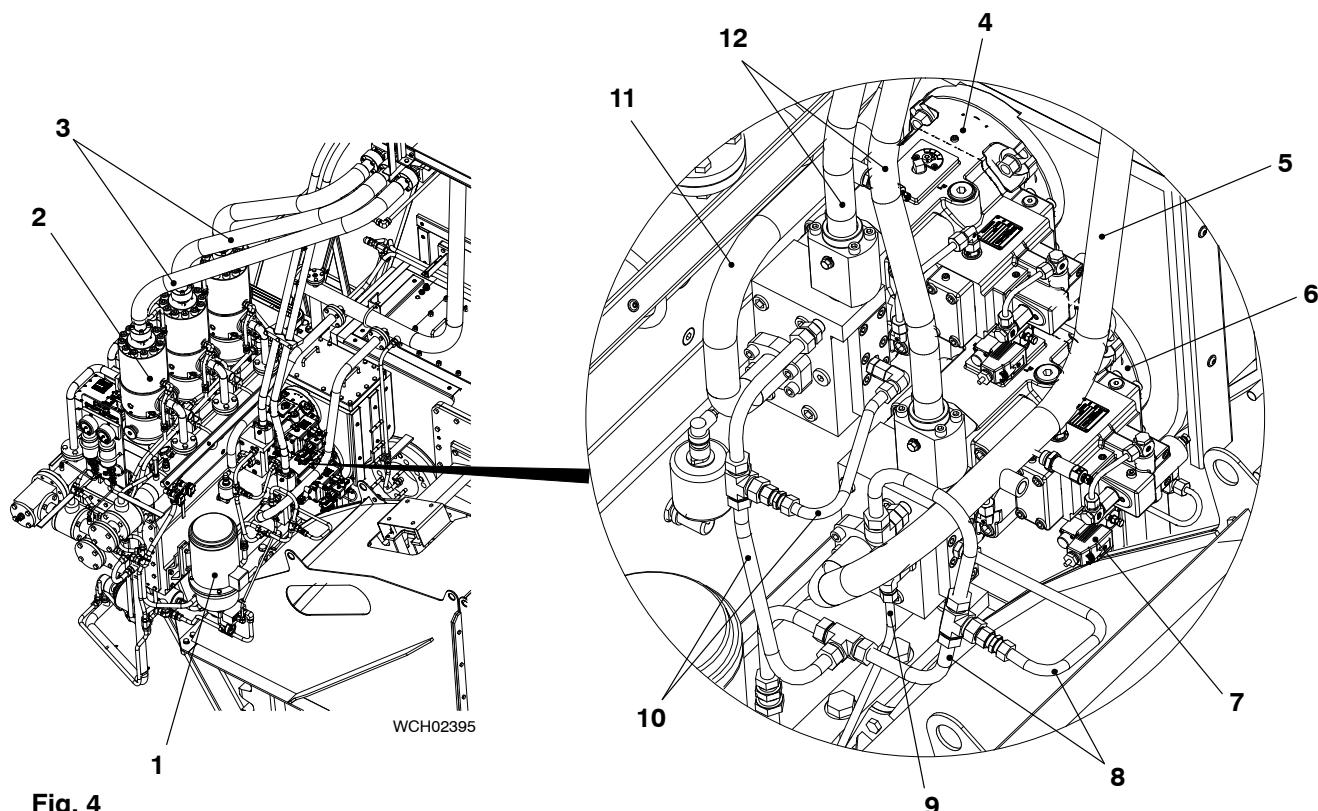

Fig. 4
- 3) Remove the HP servo oil pipes (12, Fig. 4) (see 8447-1).